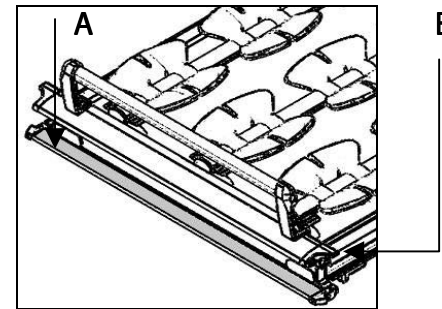
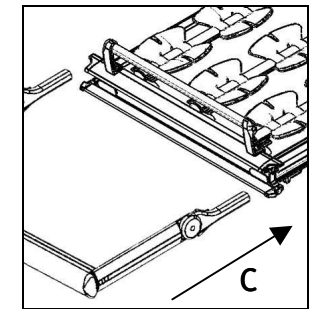
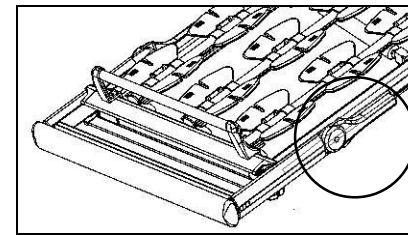

fig. 1
fig. 2
fig. 3
1. Press the release button („Drücken / Press“) downward (fig. 1, direction A), insert the ends of the side rails in the cross frame profile at the same time (fig.1, Point B & fig. 2, direction C) and slide them in as shown in figure 3.